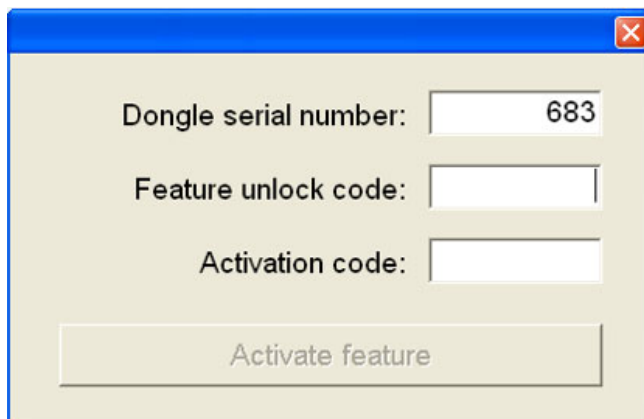

Figure 32: Add Feature window
7. Open the AddFeature.exe program. The Add Feature window appears (Figure 32).